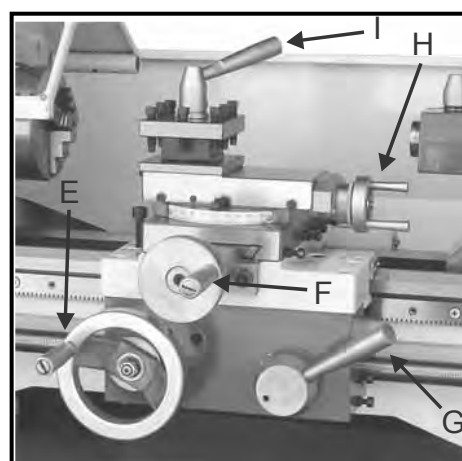

Fig. 13
9. Longitudinal Traverse Handwheel (E, Fig. 13)
10. Cross Traverse Lever (F, Fig. 13)
11. Half Nut Engage Lever (G, Fig. 13)
12. Compound Rest Traverse Lever (H, Fig. 13)
13. Tool Post Clamping Lever (I, Fig. 13)